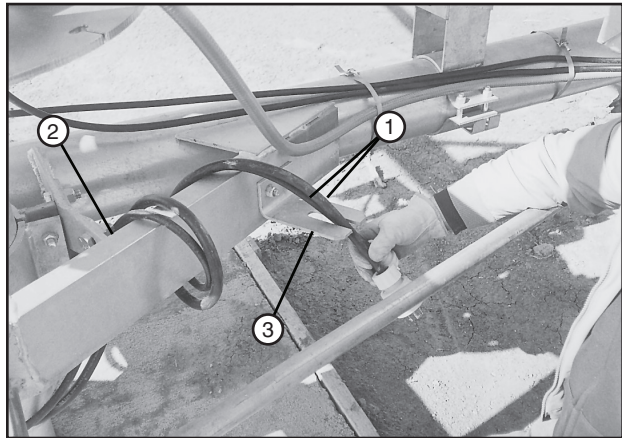

Figure 50-2 1. Cord
6. Wrap the cords around the tongue mounting channels and place the ends of the cords into the receptacle holder bracket. See Figure 50-2.